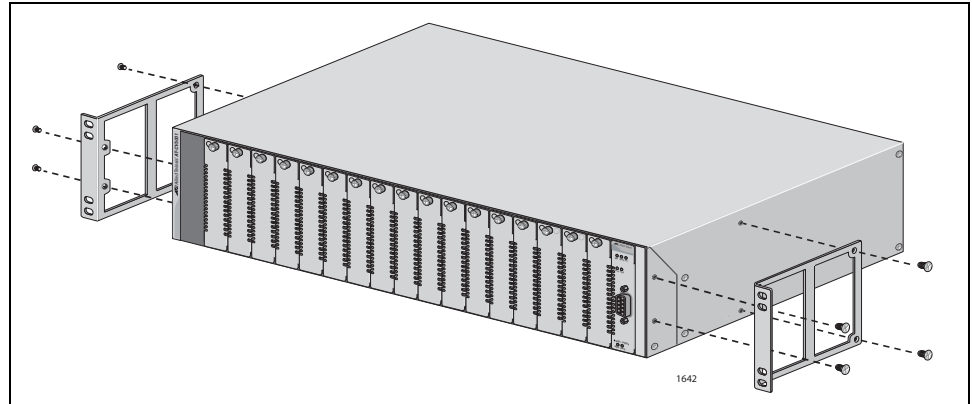

Figure 8. Installing the Brackets
4. Attach the brackets to the sides of the chassis using four screws (provided) on each side, as shown in Figure 8